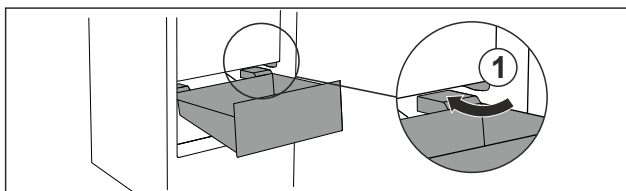

Fig. 22
- ▶ Guide drawer in at an angle around the stoppers Fig. 22 (1).